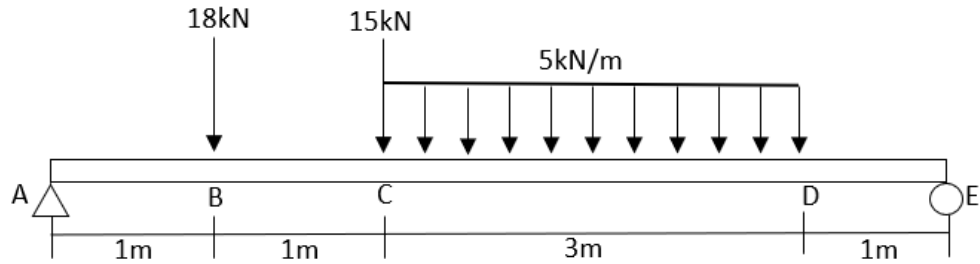

Figure B1(b) / Rajah B1(b)
- CLO2 (b) A simply supported beam is loaded to uniformly distributed load and point load as shown in Figure B1(b). Given the reaction $R_{Ay} = 31.25$ kN and $R_{Ey} = 16.75$ kN, calculate shear force value and bending moment value at each point.